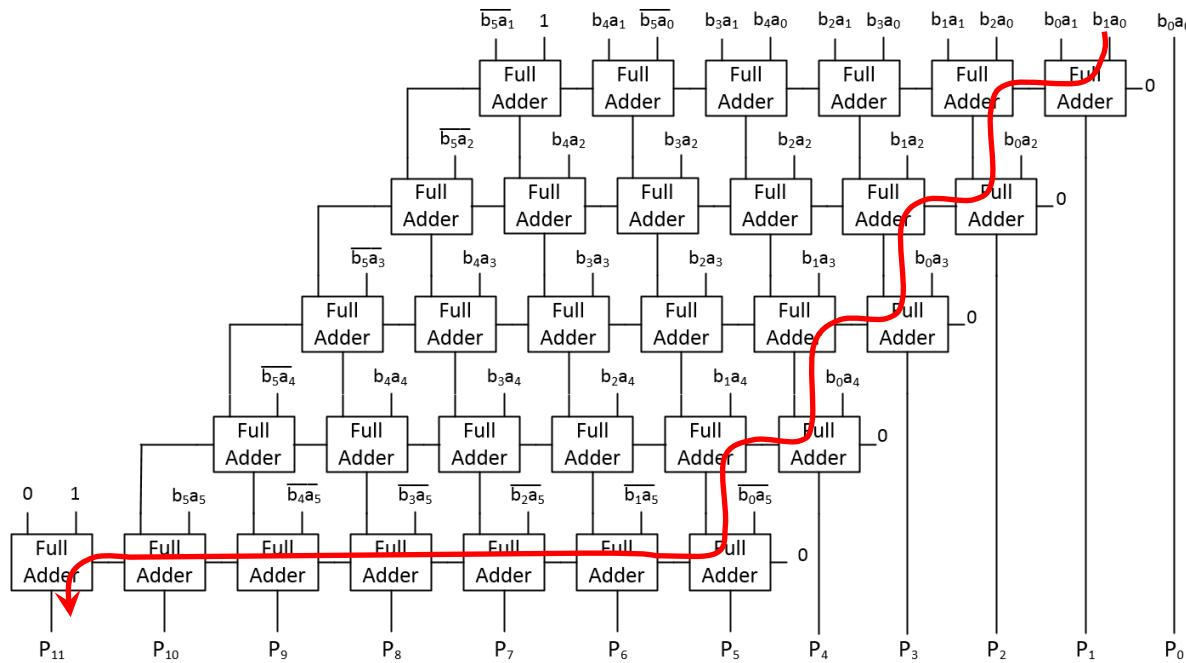
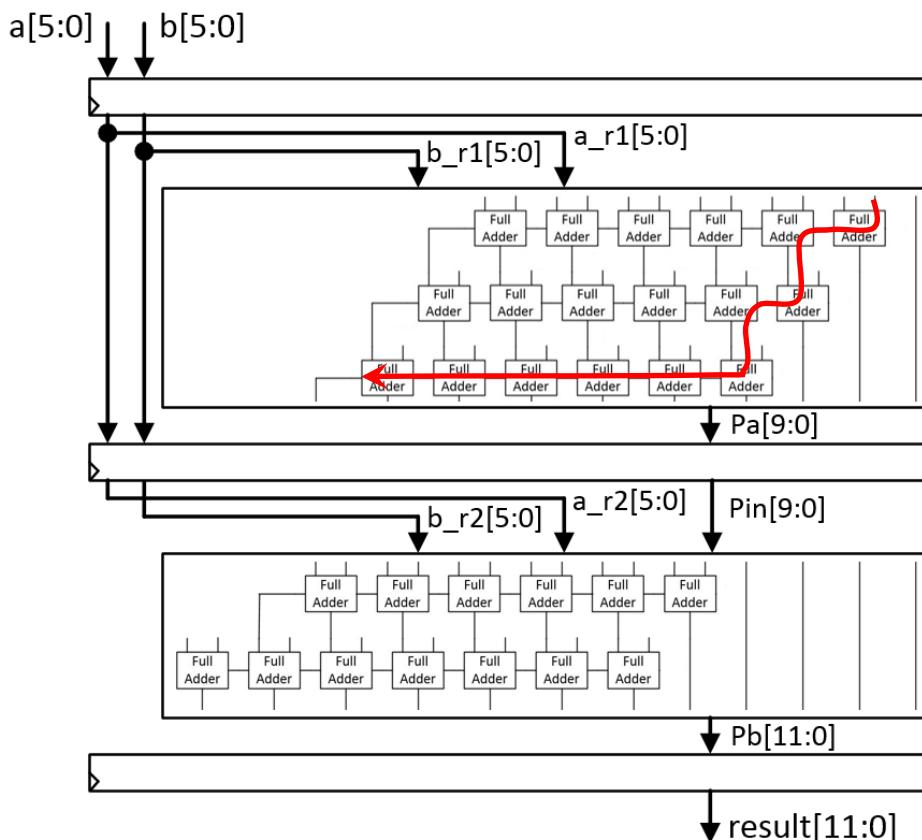

Fig. 3: The 6-bit x 6-bit 2's complement array multiplier implementation
Fig. 5: The block diagram of the pipelined multiplier
This is the standard Baugh-Wooley 2's complement multiplication algorithm which results in the array multiplier in Fig. 3. Note that there is no need for sign extension of the partial products. The Baugh-Wooley array multiplier usually is implemented using carry-save adder modules as this reduces the delay through the array. However, in FPGA, ripple carry adders are fast because of the fast carry chain logic within a logic slice, so it is easier to use standard adders (as shown in Fig. 3).
2. Add the Verilog design files (*AM_top.v* and *array_mult_6Bit.v*) to the design (select **+ OR Add Sources** from **PROJECT MANAGER** in the **Flow Navigator** window). Note *array_mult_6Bit.v* is a non-parameterised 6-bit version of the multiplier that directly matches to Fig. 3.
6. Note that WNS is positive means, even the *slowest* (worst-case) data path meets timing with margin. With a 9 ns clock, Longest data path delay (shown by the red line in Fig.3) \approx 9ns- WNS. We still have WNS of safety margin.
- First, examine the block diagram of the multiplier shown in Fig. 3. Note that the critical path is from the inputs to the full adder (FA) block at the top right (b_0a_1 and b_1a_0) to the output from the FA block at the bottom left (P_{11}) and is 15 FA delays.
- So we need to partition the adder somewhere such that the critical path in the two partitions stays roughly the same. From Fig. 3, inserting a pipeline register between the 3rd and 4th adder blocks, gives a critical path of 10 FA delays for the top partition (9 for the bottom). The pipelined design is as shown in Fig 5 (and should use the same signals).
5. Next open *multB.v*. It uses the original *a* and *b* inputs as well as the 10-bit product (*Pin*) generated in *multA.v* and produces a 12-bit result (*P*). Verify that the two new modules match those shown in Fig. 5.